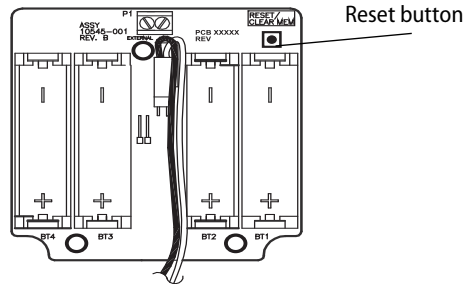
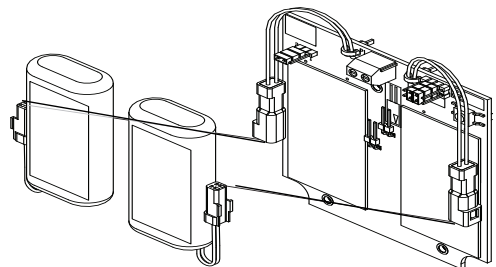

Figure 12 Using the reset button
Figure 13 Installing weatherized batteries
- 3 Install batteries with proper polarity as shown in Figure 12. (For weatherized battery packs, simply connect the wires from the battery pack to the circuit board as shown in Figure 13.)
- 4 Press and hold the reset button on the PC board (as shown in Figure 12) until the green light on the keypad flashes (about three seconds) then release the button. If green light does not flash, see "Troubleshooting" on page 12.